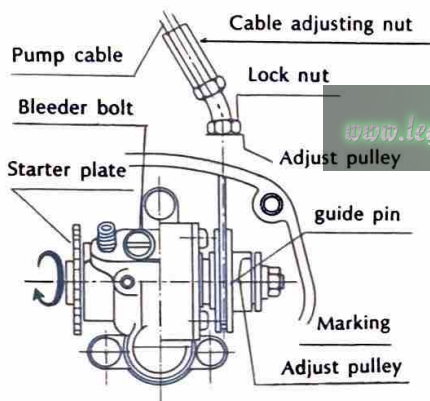

Fig. 11-3-7
- a. Adjust the pump cable so that the marking (arrow) on the Autolube pump adjustment pulley is aligned with the guide pin (see Figs. 11-3-7 & 8).
Begin by fully closing the accelerator grip, then slowly turning it back again so that the slack in the throttle cable is completely taken up. Next, adjust the pump cable so that the marking on the pump adjustment pulley will be aligned with the guide pin, as shown in Fig. 11-3-7. The point of adjustment is at the end of the cable just before it enters the case. Loosen the lock nut and screw the adjustor in or out whichever direction is necessary to obtain the correct adjustment.